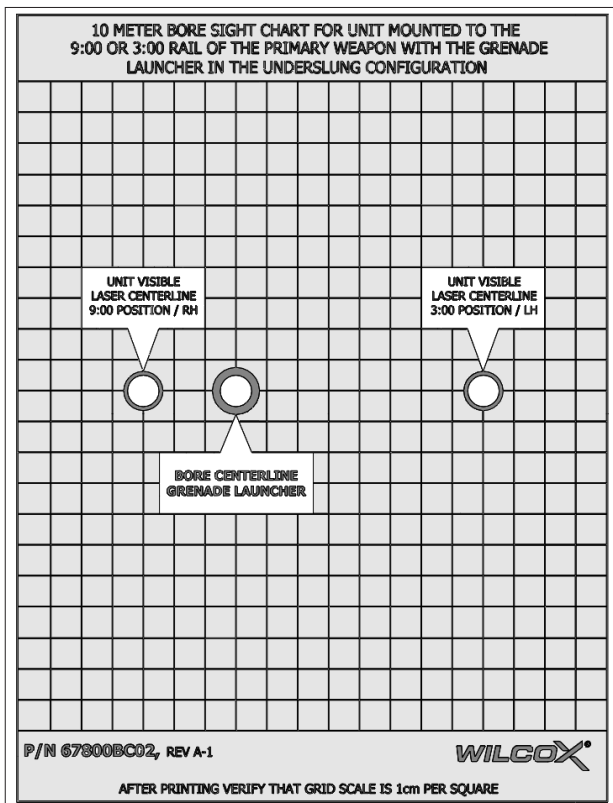

Figure 3.4-1 Universal Boresight Chart for *RAAM GSS*
- Step 3.)** Set the boresight chart level with the weapon, 10 meters from the ***RAAM GSS*** front end (see Figure 3.4-1).